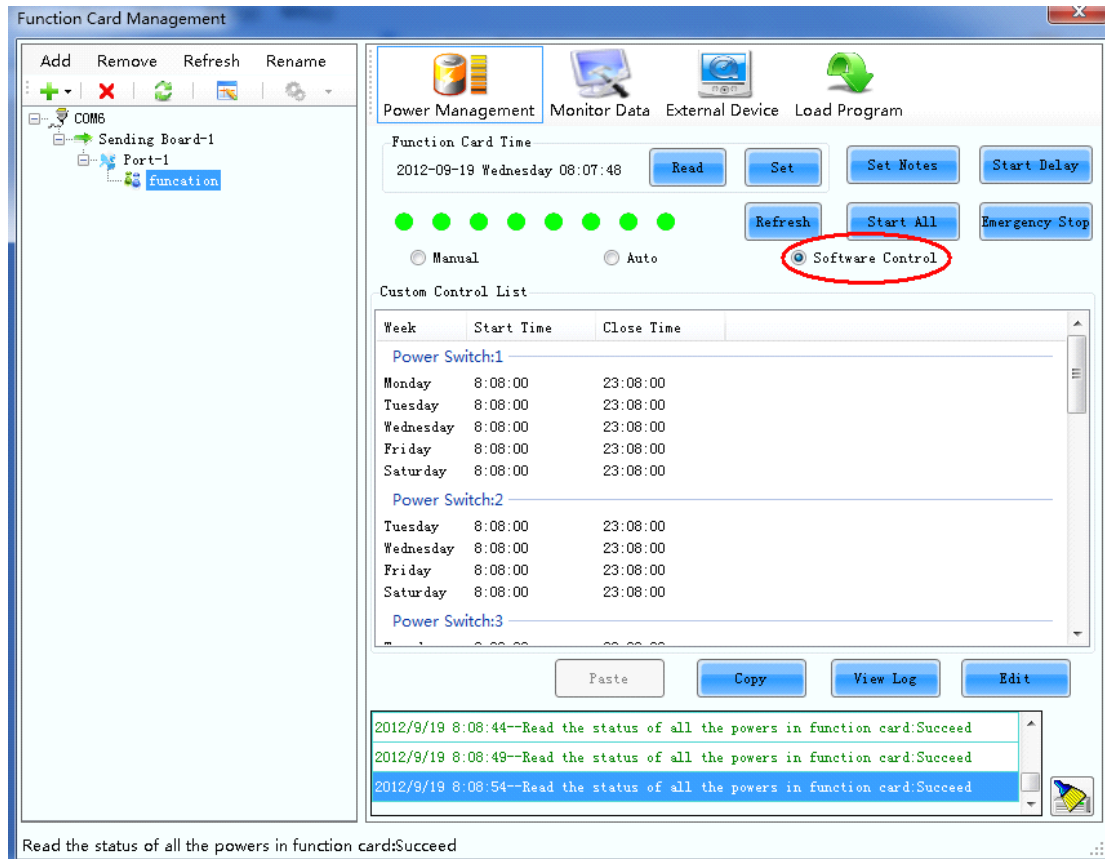

Figure-11
**View log:** Check the log of the control operations on the power supplies, as shown in Figure-11.